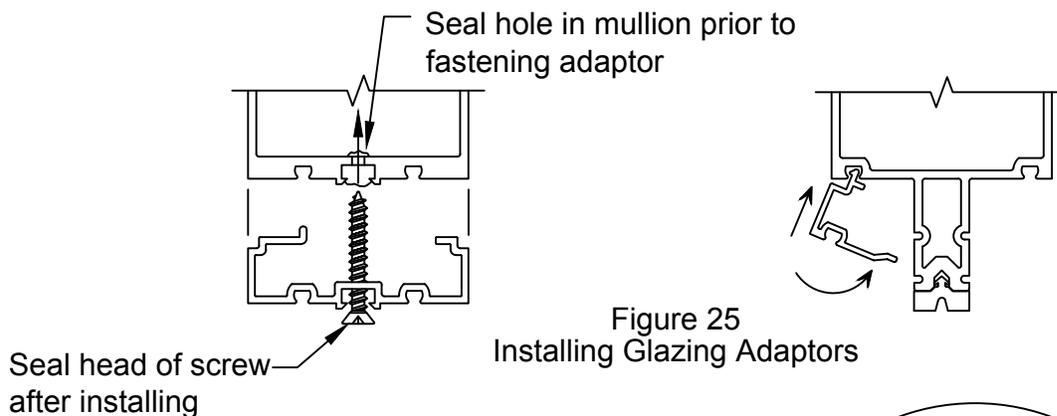

Figure 25
- A.1 Install vertical adaptors first, leaving an equal overlap into each pocket. For captured verticals and all horizontals, insert the hook side into the glazing reglet, then insert leg into reveal on mullion. SEE FIGURE 25. Refer to VERTICAL SPLICING, page 33 & 34 if vertical mullion is spliced within a spandrel lite. Transition adaptors must be installed after mullion splice is sealed.
- A.2 For SSG mullions, install locator leg into one of the glazing reglets. Secure to mullion with FS-318 #12 x 1 3/4" Phillips Flat Head screw 3" from the ends and 12" O.C. SEE FIGURE 25.